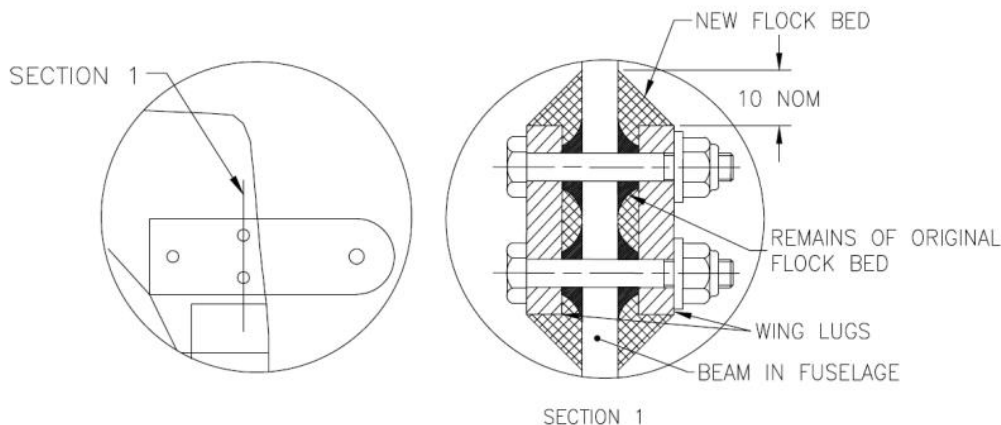

Figure 29 – Bond Details
- Use a die-grinder remove some of the old flock bed. Do not remove that portion of the bed where the bolts pass through: this will be used to locate the replacement lugs (See a cross-section of the lug assembly shown in Figure 29). Leave a portion of the bed approximately 12mm in diameter around each bolt hole to support the new lugs.
- Apply a resin/flock bead around the edge of the lugs as shown in Figure 29.